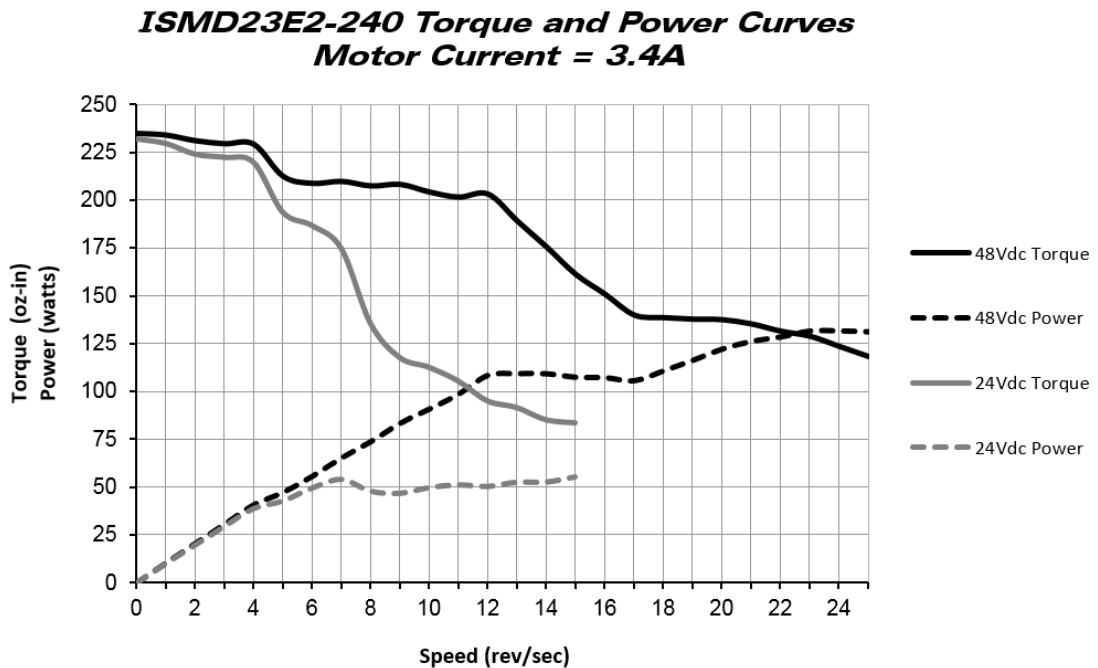

Figure R1.7 ISMD23E-240 Torque and Power Curves
**Example 2:** An ISMD23E2-240 will be running at a maximum of 9 RPS and a 24 Vdc supply will be used. Based on the power curve in figure R1.7 on this page, the power at this speed is approximately 47 watts, but the maximum power over the entire speed range is 55 watts, which occurs at 7 RPS. Therefore, the 55 watt value should be used, and the 24 Vdc supply should be able to supply 83 to 97 watts of power.